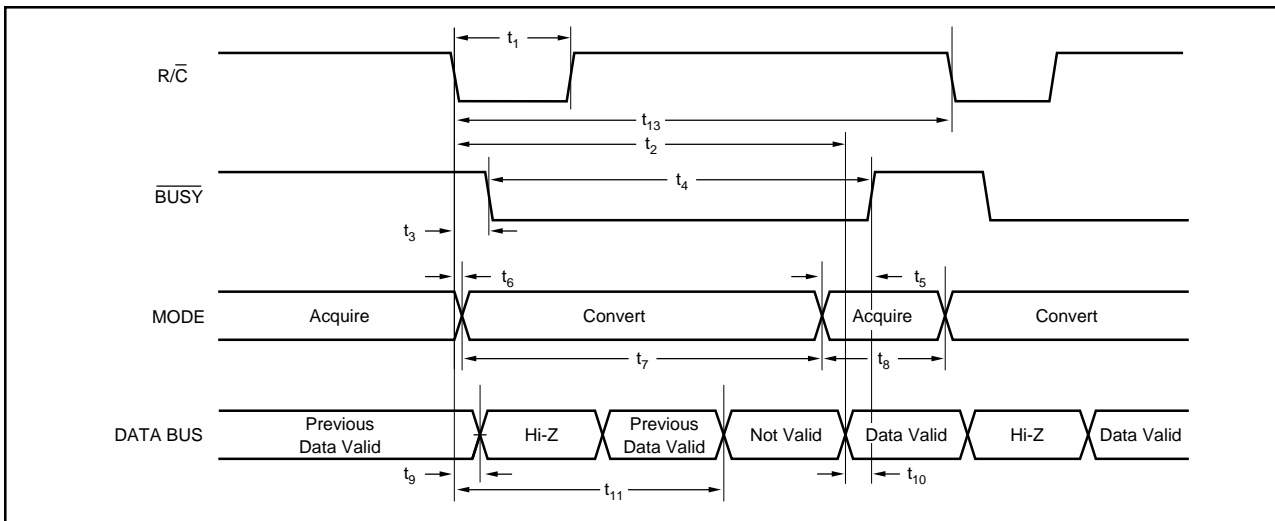

FIGURE 3. Conversion Timing with Outputs Enabled after Conversion (\overline{CS} Tied LOW.)
The ADS7821 will begin tracking the input signal at the end of the conversion. Allowing $10\mu\text{s}$ between convert commands assures accurate acquisition of a new signal. Refer to Table II for a summary of \overline{CS} , $\overline{R/C}$, and \overline{BUSY} states and Figures 3 through 5 for timing diagrams.
NOTE: (1) See Figures 3 and 4 for constraints on data valid from conversion "n-1".
After conversion 'n' is completed and the output registers have been updated, \overline{BUSY} (pin 26) will go HIGH. Valid data from conversion 'n' will be available on D15-D0 (pin 6-13 and 15-22). \overline{BUSY} going HIGH can be used to latch the data. Refer to Table IV and Figures 3 through 5 for timing specifications.
After conversion 'n' has been initiated, valid data from conversion 'n-1' can be read and will be valid up to 5 μ s after the start of conversion 'n'. Do not attempt to read data from 5 μ s after the start of conversion 'n' until \overline{BUSY} (pin 26) goes HIGH; this may result in reading invalid data. Refer to Table IV and Figures 3 through 5 for timing specifications.
The number of control lines can be reduced by tying \overline{CS} LOW while using R/\overline{C} to initiate conversions and activate the output mode of the converter. See Figure 3.